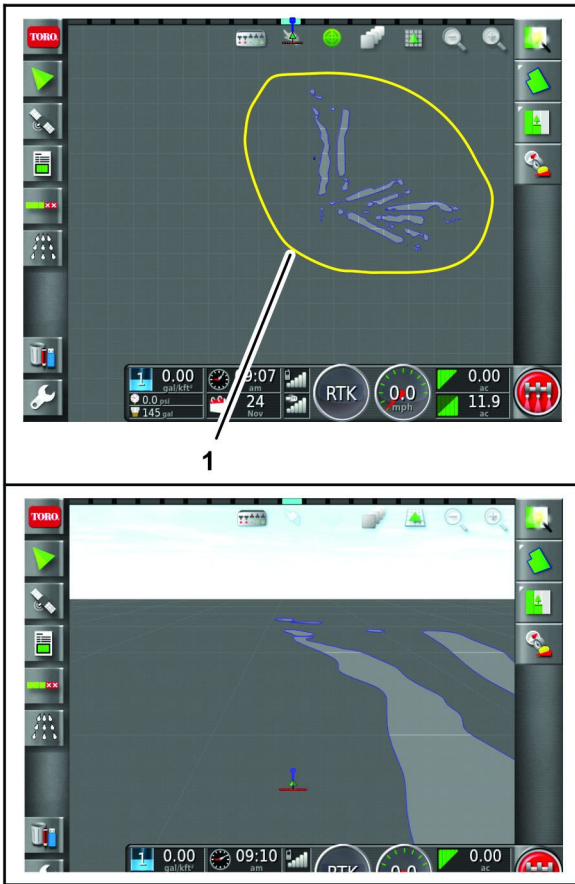

Figure 68
- A spray technician uses machine #1 to map field boundaries for holes 1 through 9 (Figure 68).